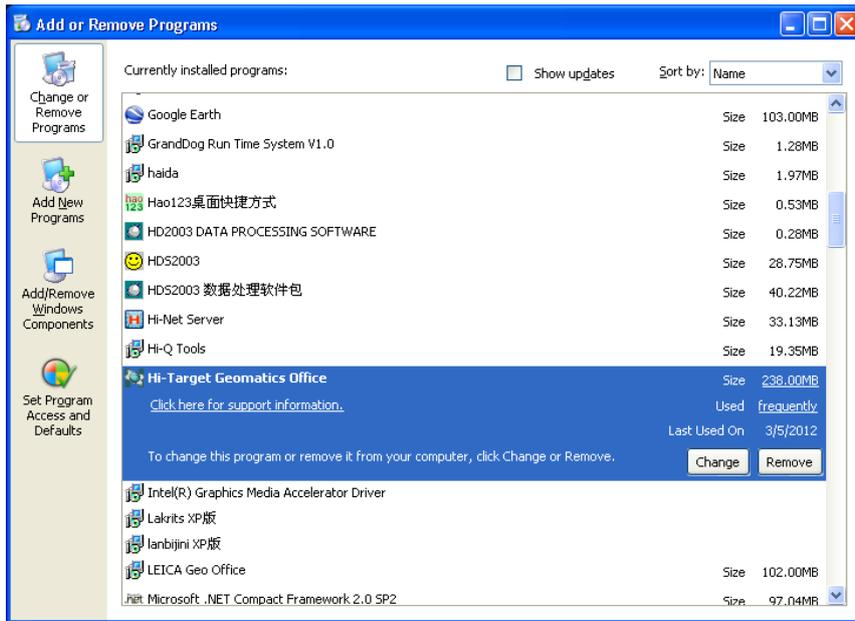

Figure 1-8
2. Select “Start\Setting\Control Panel”, chose *Control Panel*, then *Add/Remove Programs*, the “Add/Remove Programs” Properties dialog appears. Click on **Add/Remove** get a pop-up window as figure 1-8.